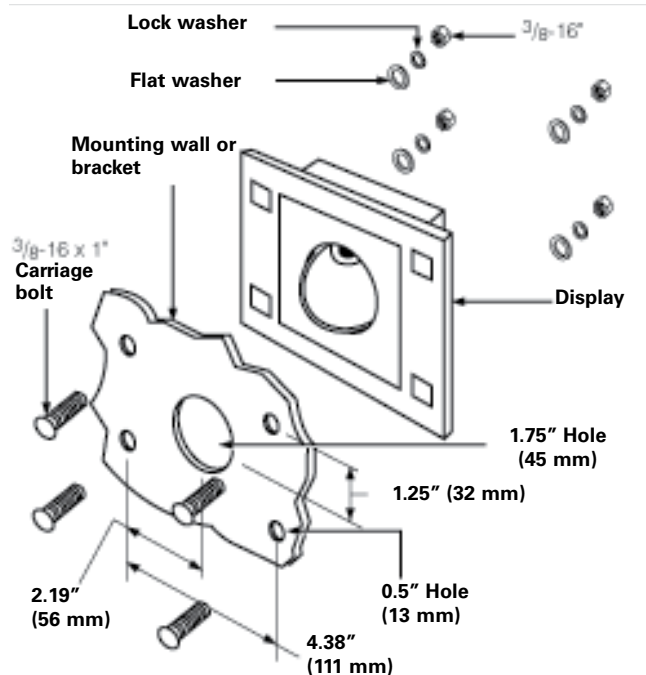

Figure 5. Remote FISHEYE™ display installation diagram
1. **Punch or drill** four 0.5" (13 mm) and one 1.75" (45 mm) holes as shown in Figure 5. Hole rims may need to be treated for corrosion resistance. Consult enclosure manufacturer for recommendation.